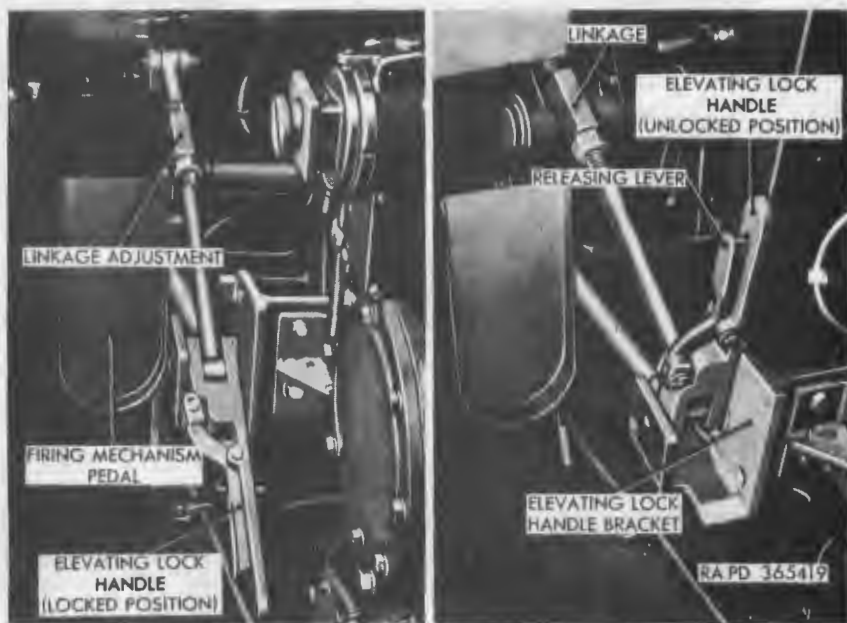

Figure 38. Firing mechanism pedal and elevating travel lock controls.
b. *Firing Mechanism Pedal* (fig. 38). The firing mechanism pedal, located forward of the gunner's seat, is used to manually fire the dual gun. Depressing the pedal will fire the dual gun through mechanical linkage.
c. *Elevating Travel Lock*. The elevating travel lock, located to the right of the gunner's seat, secures the dual gun M2A1 at 0° elevation for traveling or during storage. To release the elevating travel lock, squeeze the releasing lever and move the elevating lock handle (fig. 38) forward to the unlocked position. Be sure that releasing lever plunger mechanism is seated in hole of elevating lock handle bracket. To lock dual gun in traveling position, manually depress gun to 0° elevation, squeeze releasing lever and move elevating lock handle rearward to the locked position. If releasing lever plunger mechanism does not seat in hole of travel lock bracket, rotate hand operating crank (elevating) slightly in both directions until plunger seats.